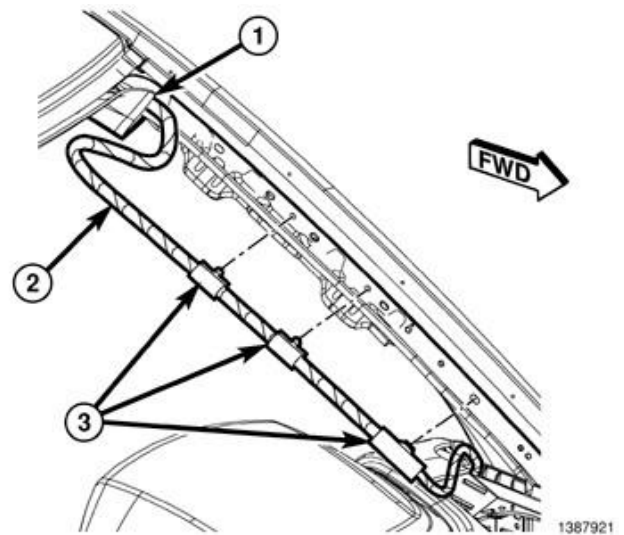

Figure 14 – Headliner Harness
21. As necessary, release the headliner wiring harness clips (3) from the A-pillar to allow enough wiring harness slack for lowering the headliner (Figure 14).
40. Reattach any headliner wiring harness clips (3) removed from the A-pillar to allow slack while lowering headliner (Figure 14).